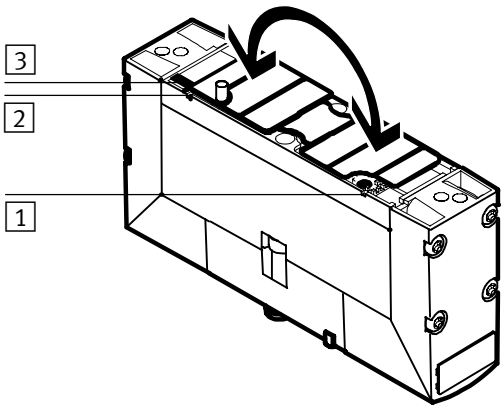

Fig. 5/6: Turning the valve seal
4. Turn all valve seals according to the desired exhaust variant (see Fig. 5/6).